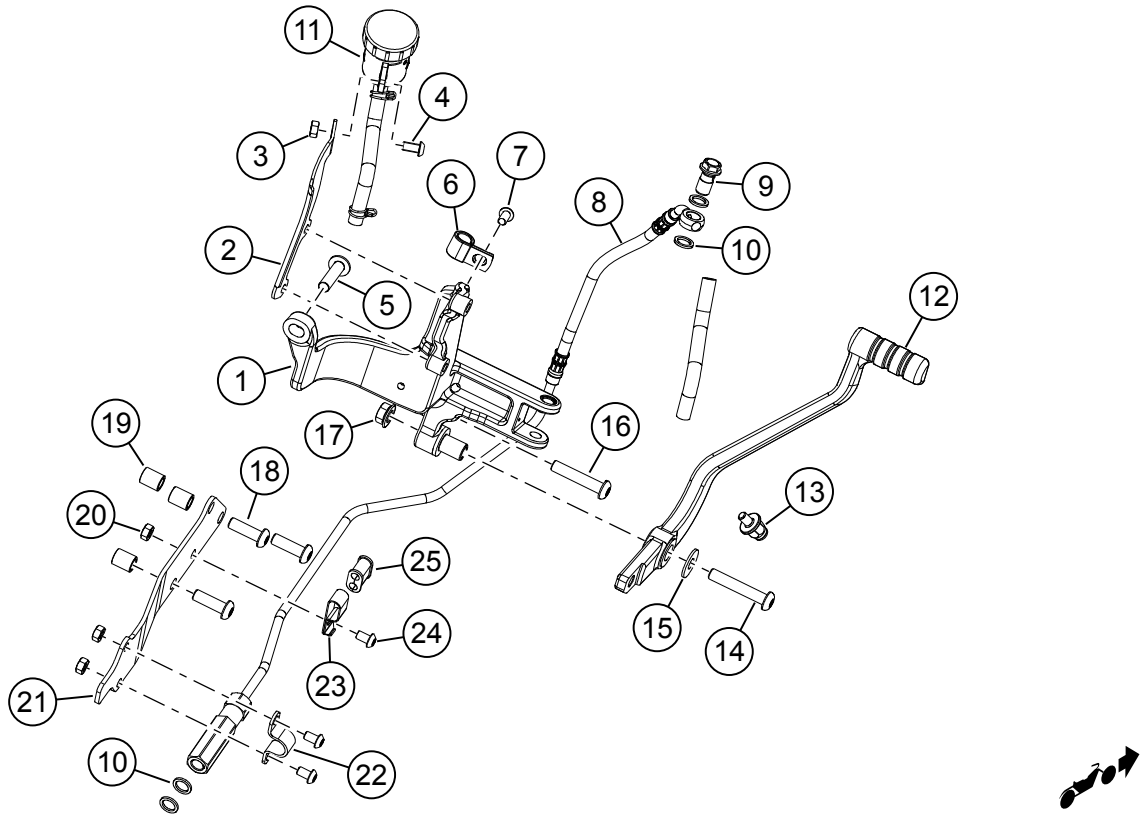

Figure 2. Kit Contents: Right Forward Control Kit
1. See Figure 2. Install wear peg (13). Tighten.